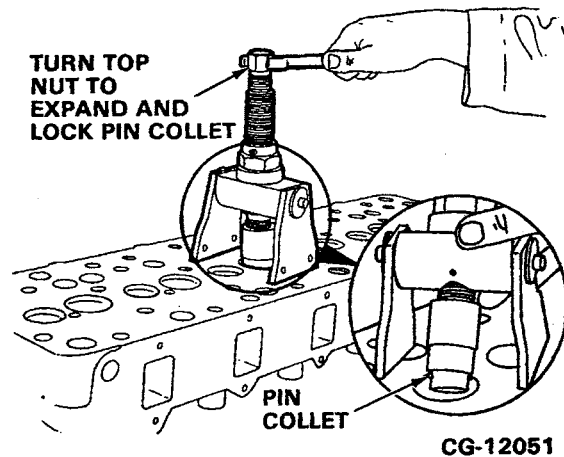

Figure 4.50. Install Universal Valve Seat Extractor
- b. Expand the pin collet by turning the small nut at the top of the bridge assembly. Refer to Figure 4.50.